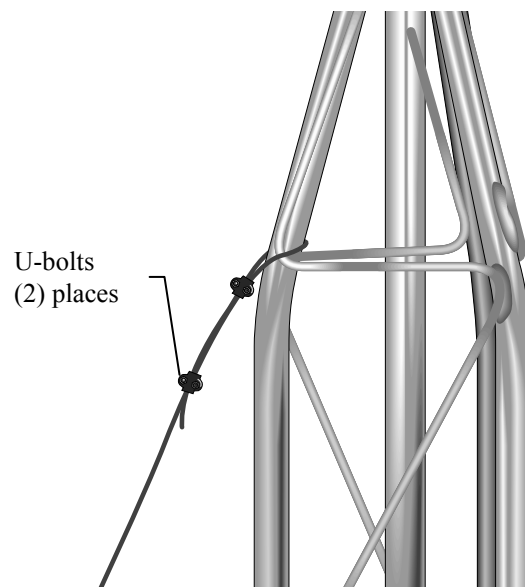

FIGURE 2.1-8. Guy wire attached to tower
2. Install the guy wires to the top of the tower (Figure 2.1-8). Cut the 120 ft piece of guy wire into three pieces; lengths will vary with slope. Attach the guy wires to the tower using two U-bolts for each guy wire.